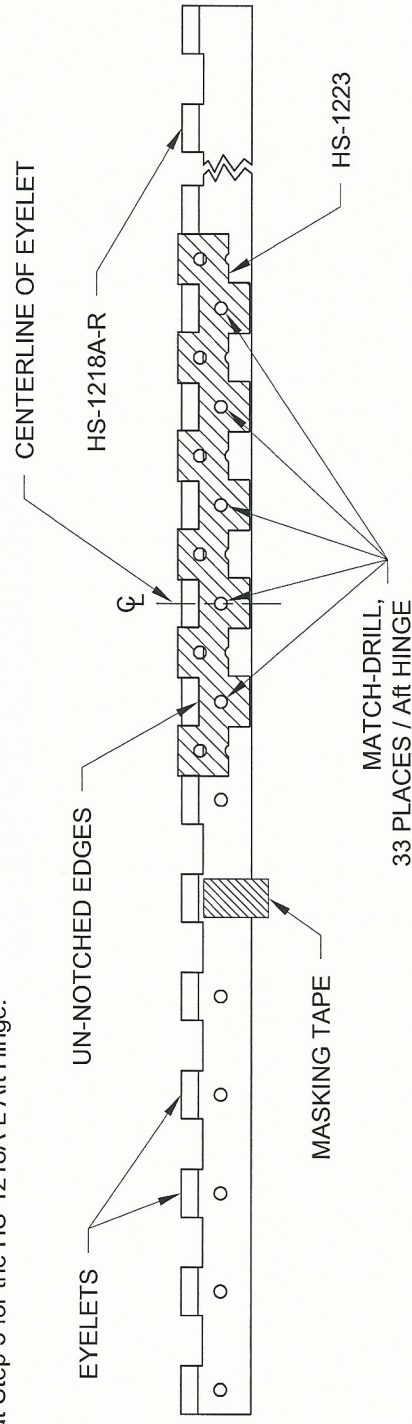

FIGURE 3:
Step 5: Match-Drill #30 the HS-1218A-R Aft Hinge using the HS-1223 Drill Guide as called out in Figure 3. Orient the un-notched inset edges of the drill guide to be flush against the eyelets of the aft hinge half. Clamp the drill guide onto the aft hinge half. Use only the holes that are centered below each aft hinge eyelet, as shown in Figure 3. Omit the holes that align with the masking tape applied in Step 4. Reposition the drill guide and repeat Step 5 until the aft hinge half is match-drilled at each eyelet, except where the masking tape is applied.